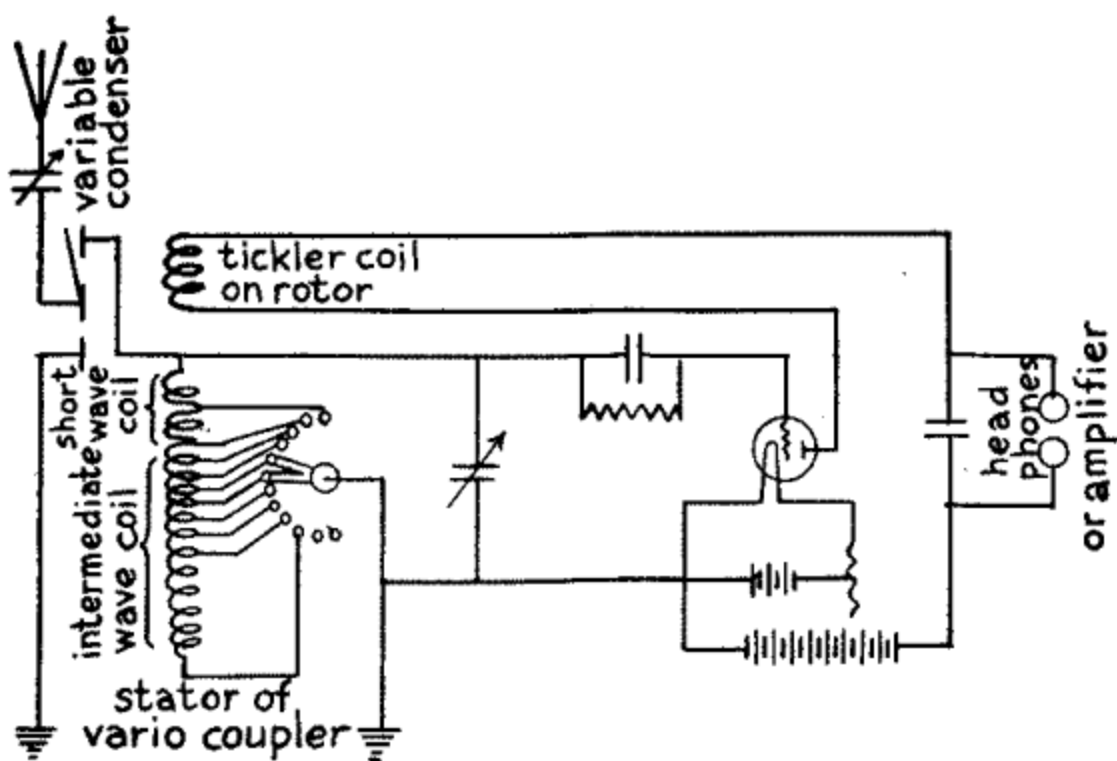

FIG. 58.—Wiring Diagram for Intermediate Wave Receptor with one Variocoupler and 12 section Bank-wound Inductance Coil.
When the variocoupler is adjusted for receiving very long waves the rotor sets at right angles to the stator and, since when it is in this position there is no mutual induction between them, the tickler coil serves as a loading coil for the detector plate oscillation circuit. Inductance coils for short wave lengths are usually wound in single layers but *bank-wound coils*, as they are called are necessary to get compactness where long wave lengths are to be received. By winding inductance coils with two or more layers the highest inductance values can be obtained with the least resistance. A wiring diagram of a multipoint inductance coil is shown in *Fig. 58*. You can buy this intermediate wave set assembled and ready to use or get the parts and connect them up yourself.
The Parts and How to Connect Them Up.--For this regenerative intermediate wave set get: (1) one 12 section *triple bank-wound inductance coil*, (2) one *variometer*, and (3) all the other parts shown in the diagram *Fig. 58* except the variocoupler. First connect the free end of the condenser